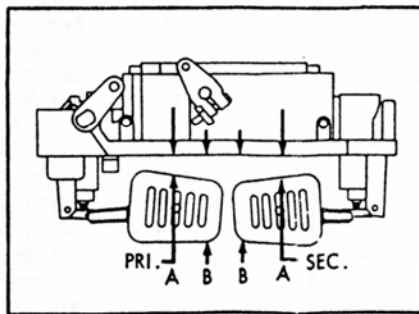

Figure 2
V. FLOAT DROP ADJUSTMENT. (See figure 2.)
- a. **TYPE "A" ADJUSTMENT.** Hold air horn upright with floats hanging by their own weight. Measure from center top surface of pontoons to air horn (gasket removed) as shown at "A" in figure 2. Refer to Adjustment Data Table for dimensions and adjust by bending stop tabs on float brackets.
- b. **TYPE "B" ADJUSTMENT.** Hold parts as described above and measure at location "B" figure 2. Refer to Adjustment Data Table for dimensions. Adjust as described above.